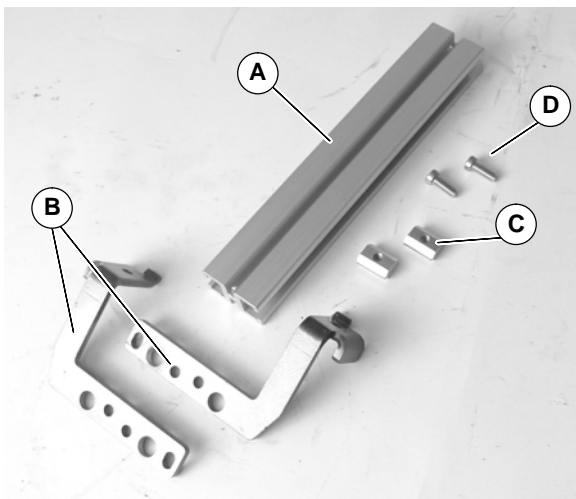

Figure 9
1. Gather components (Figure 9)